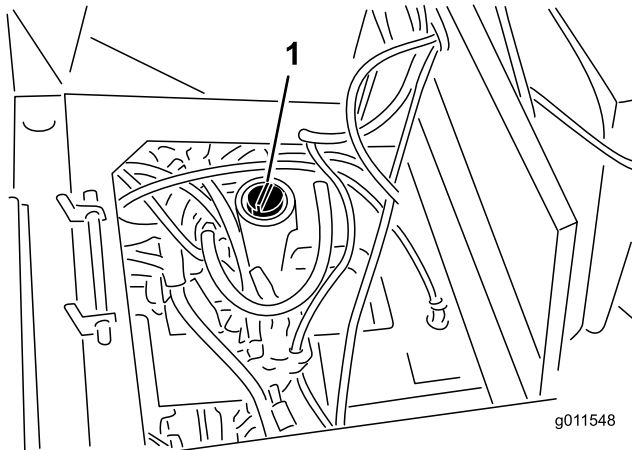

Figure 12
3. Clean the area around the filler neck and cap of the hydraulic tank (Figure 12). Remove the cap from the filler neck.